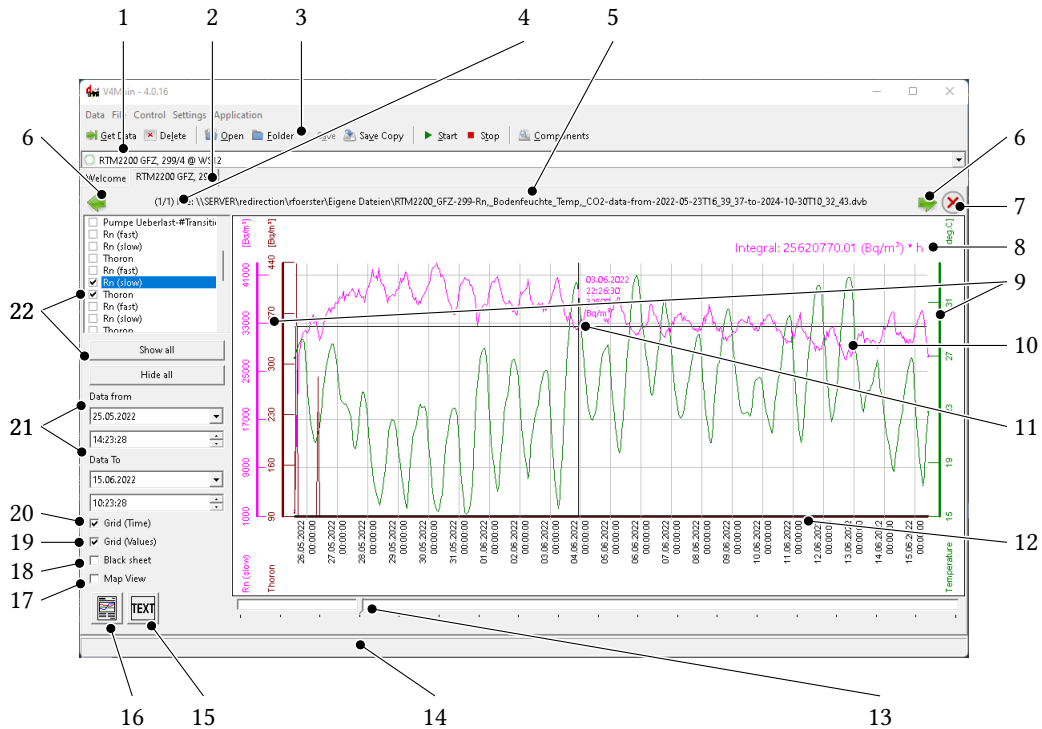

Figure 3.1: Operating and display elements in the main window
Figure 3.1 shows the main window of *dVISION 4* with the following operating and display elements:
In any case, the *SARAD Registration Server service* ensures that the selection list of connected devices (1 in Fig. 3.1) is automatically kept up to date. If this is not the case for devices connected directly via RS-232, you can select from the context-sensitive menu of the selection list and instruct the *SARAD Registration Server service* to search all available local interfaces for connected SARAD devices. The context-sensitive menu opens after a right-click in the selection list (see Fig. 4.5).
dVISION 4 only allows the following elementary operations that change the state of the measuring instrument (3 in Fig. 3.1):
In figure 3.1, the 22 marks all control elements that are used to select the parameters to be displayed in the diagram. The list box at the top contains all the data series generated by the device. To display or hide a data series in the diagram, the checkbox in front of the name of the data series must be checked or unchecked. The two buttons below make this easier, especially if the list of measurement parameters is very long.
A prerequisite for the display is that data from this measurement series is available for the display period (21 in Fig. 3.1).
Simply click on the name of a data series in the list to select it for the cursor or export function. The values of the selected measurement series indicated by the dark background then appear at the crosshairs of the cursor (11 in Fig. 3.1). These always refer to the cursor position in both axes, regardless of the measurement series. The grid is also aligned with the y-axis of the selected measurement series.
In the bottom line on the left, you can request the calculation of the integral under the area of the curve visible in the current diagram, which is shown in figure 3.1 at the position marked 8.
Zoom Out of the timeline	Right-click on 21 in Fig. 3.1, then <input type="button" value="All data..."/>
Defining the timeline	Editing the fields in 21 in Fig. 3.1
The measurement files or the measurement data downloaded from the measuring instrument and not yet saved are stored by *dVISION 4* in individual tabs sorted by measuring instrument (2 in Fig. 3.1). Several measurement files can be open in each tab, between which you can switch using the **←** and **→** buttons (6 in Fig. 3.1). The status bar between these buttons shows the file name (marker 5) and the sequential number (4) of the open file in front of it.
With the **Print** button (marker 16 in Fig. 3.1), the diagram can be printed in the currently displayed form.
By clicking in the white area below or above the diagram, you can add a title or caption. Buttons 19 and 20 in figure 3.1 allow you to adjust the grid.